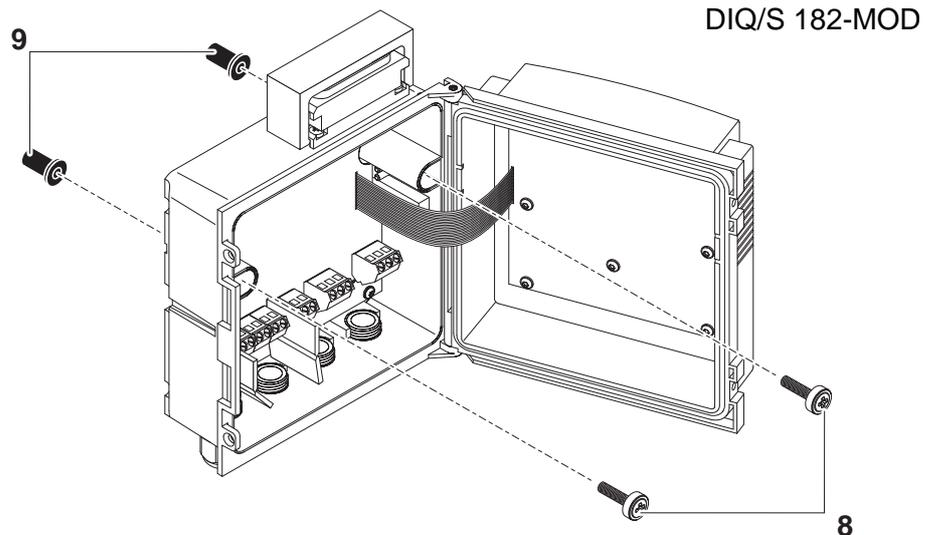

Fig. 3-3 Premounting the ISO blind nuts (variant 1)
- 6 Insert the cheese-head screws (pos. 8 in Fig. 3-3) with the plastic washers in the drilled mounting holes in the enclosure and loosely screw in the ISO blind nuts (pos. 9).
| 7 | Attach the prepared Universal Transmitter to the lid of the MIQ module. At the same time, ensure that the two clips on the Universal Transmitter click into place in the lid of the MIQ module. Subsequently, tighten the two screws (pos. 8 in Fig. 3-3). |